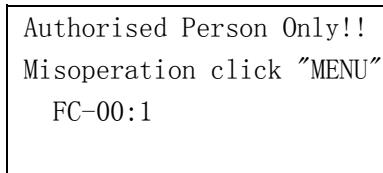

Fig3-9
5. Enter the "AuxiSet" interface in the main menu, can adjust the parameters of the LED operation mode. Users who are accustomed to the operation of the LED can enter this interface to adjust the parameters. For the code numbers, refer to the digital display manual. shown as Figure 3-9.